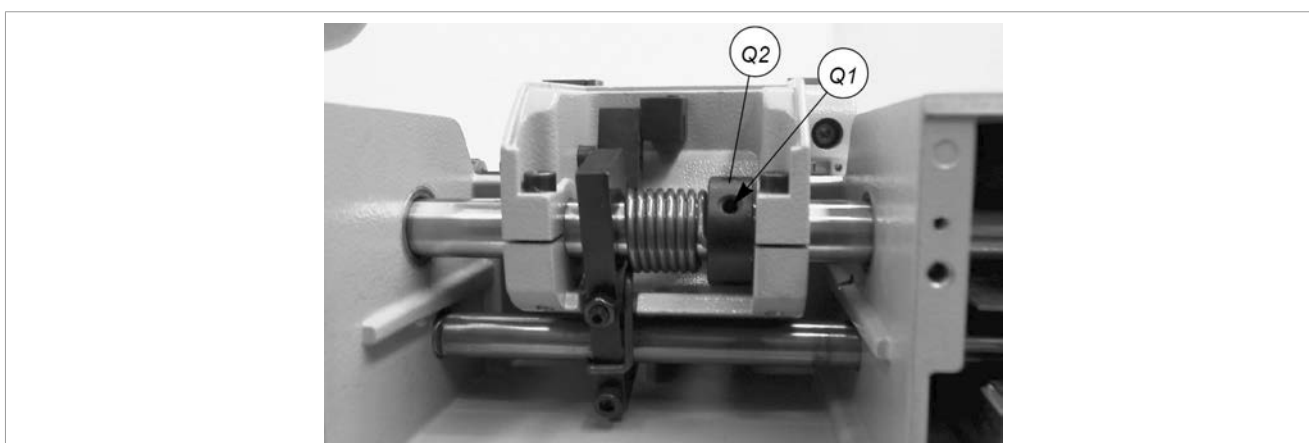

Fig. 49
- 13) Loosen the grub screw (Q1) on the spring ring nut (Fig. 49, page 30).